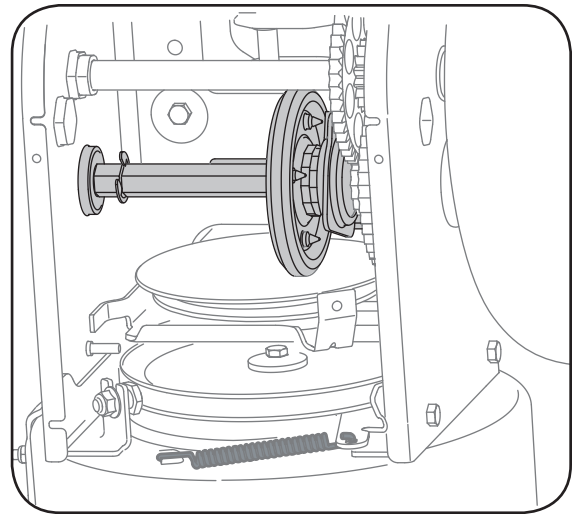

Figure 17
2. Apply a light coating of an all-weather multi-purpose grease to the hex shaft. See Figure 17.